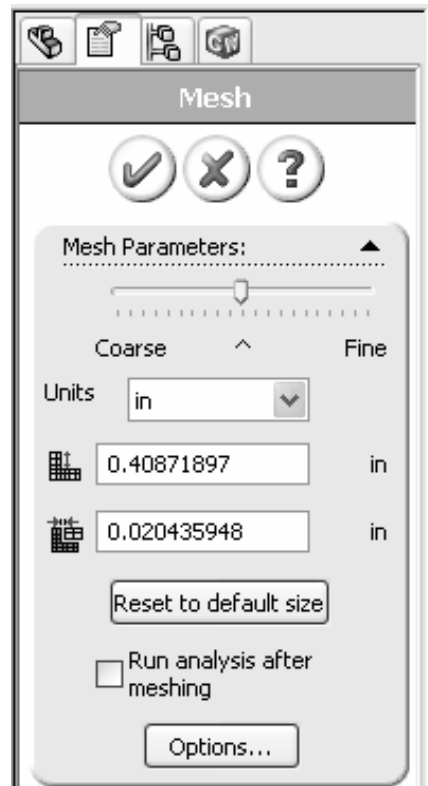

Figure 13 – Mesh Property manager showing system default **Mesh** settings applied to the current model.
8. Next, in the COSMOSWorks manager tree, right-click **Mesh** and select **Create...** The **Mesh** property manager opens as shown in Fig. 13.